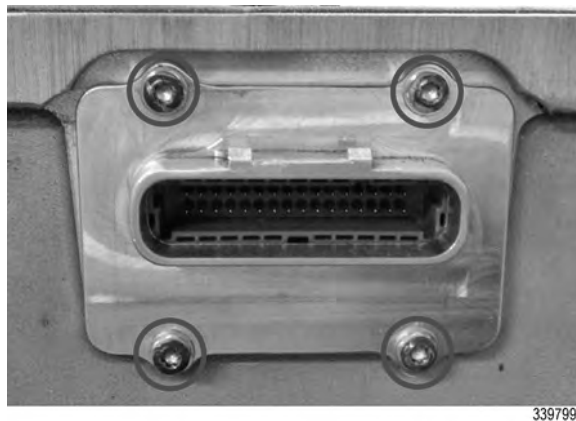

Figure 18. Encoder Card Mounting Screws
6. Apply one drop of Loctite® 425 or Loctite® 242 thread locking compound to the end of the external threads of the four (4) M4x14mm screws. Using a Torx-Plus® T20 bit, install the four (4) M4x14mm screws securing the encoder card (refer to Figure 18). Torque the four (4) M4x14mm screws to 1.2-1.5 N·m (10.6-13.3 in·lb).